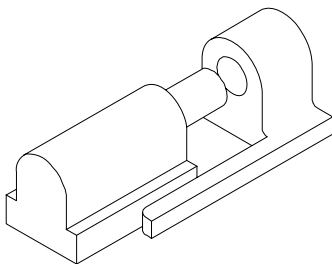
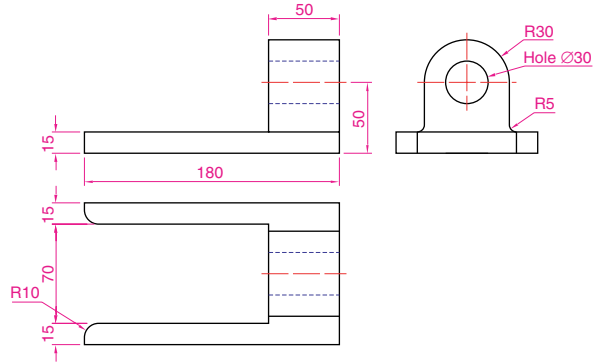

Fig. 7.23 Exercises 1, 2 and 3 – an isometric drawing of the three parts of the slider on which these exercises are based
Fig. 7.24 Exercise 1
Fig. 7.23 is an isometric drawing of a slider fitment on which exercises 1, 2 and 3 are based.
1. Fig. 7.24 is a first angle orthographic projection of part of the fitment shown in the isometric drawing in Fig. 7.23. Construct a three-view third angle orthographic projection of the part.